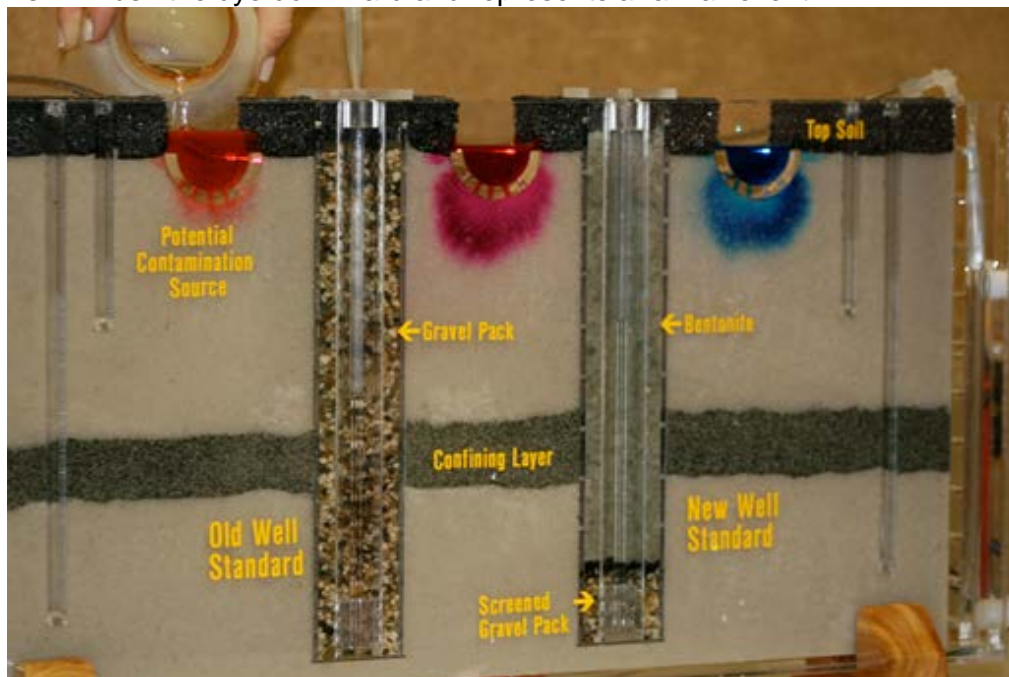

Figure 7. Following Dye with Water
2. Add a small amount of water into each using a small beaker (Fig. 7).